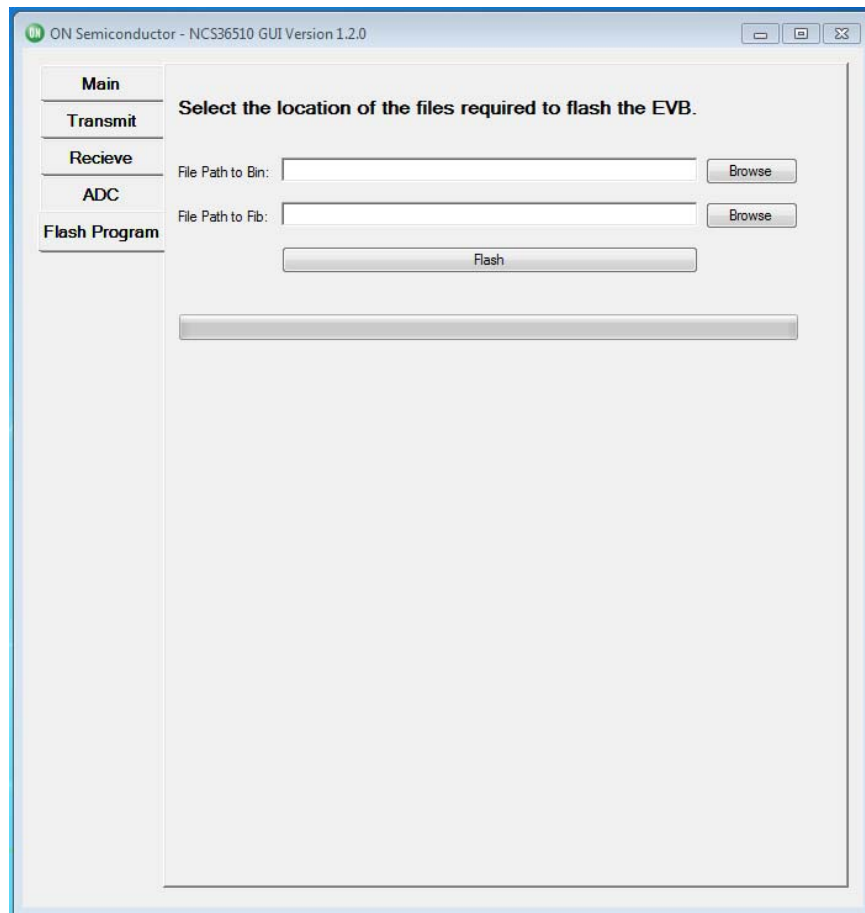

Figure 16. GUI–FLASH Program–Interface
3. Select the “FLASH Program” tab as shown in Figure 2, the “FLASH Program” page will look as shown in Figure 16.